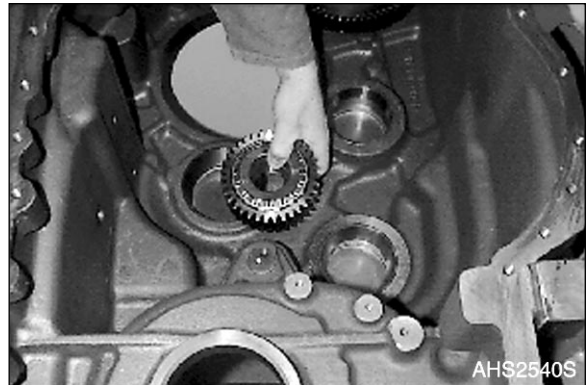

Figure 294
- Position countershaft gear (along with inner bearing races), see Figure 294.